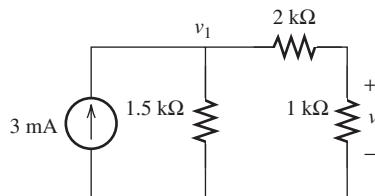

FIGURE P2.54 Circuit for Problem 2.54.
- 2.54 (H)** Find v in the circuit shown in Figure P2.54.
- 2.55 (H)** Find the power dissipated in all the resistors of Figure P2.54.